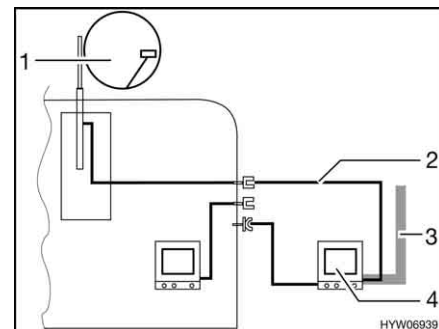

Fig. 175 TV in the awning
- TV inside the awning (Fig. 175,4): Connection to roof antenna (Fig. 175,1) with connection cable (Fig. 175,2)
- TV inside the awning (Fig. 175,4): Connection to external antenna (Fig. 175,3)